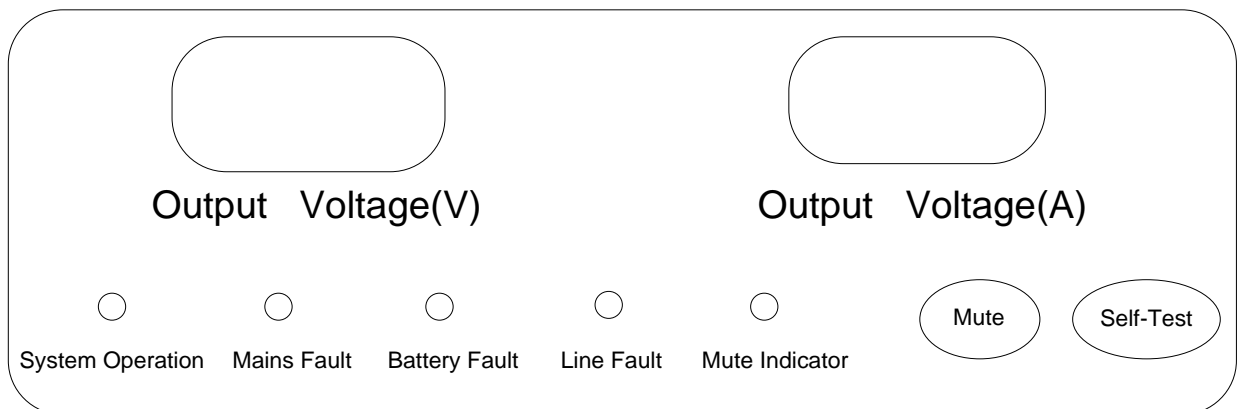

Fig 2 Front Panel Mute Indicator
5.2 Front panel of PSU is shown in Fig.2